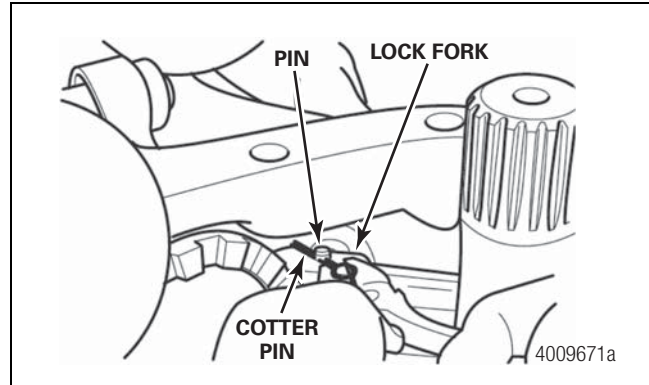

Figure 6.3
1. Remove the cotter pin from the clevis pin. Remove the clevis pin from the shift fork. Figure 6.3.